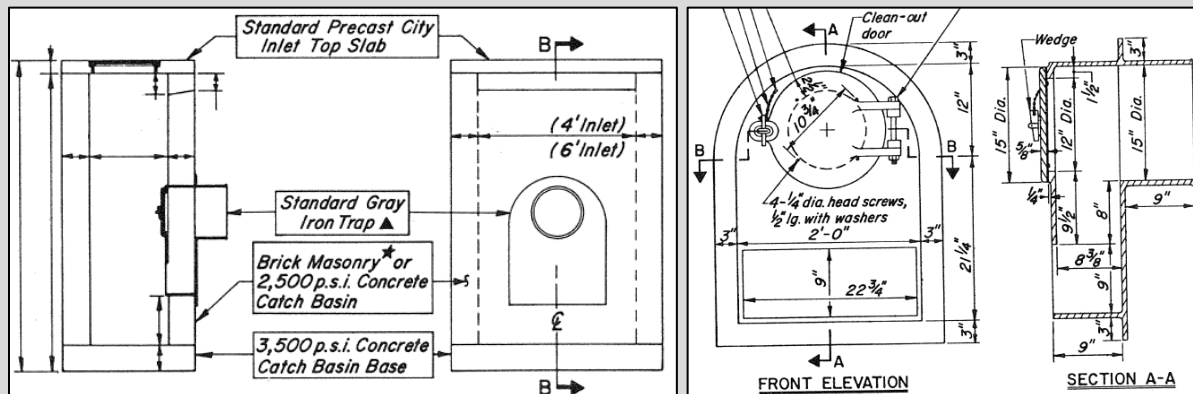

Figure 3 – Inlet with Cast Trap and Cast Trap Standard Details
If the inlet is constructed with a metal trap and trap door, the depth of the inlet lateral invert can be obtained by measuring from the top of the dripstone (BC) to the bottom of the trap door. As shown in *Figure 3* below, the bottom of the trap door is the same elevation as the lateral invert. Unless an inlet is experiencing operational issues preventing the lateral pipe from conveying stormwater, the water level in this type of inlet should always be at or below the bottom of the trap door.